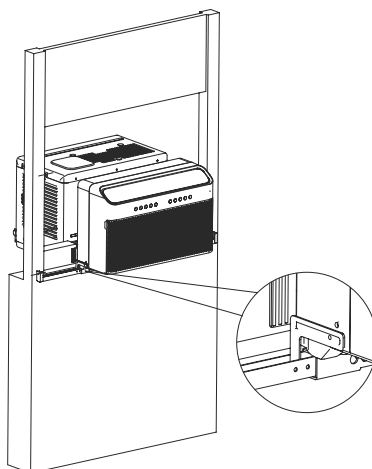

Figure 6
B. Fasten the AC with the L plate. See Figure 6.